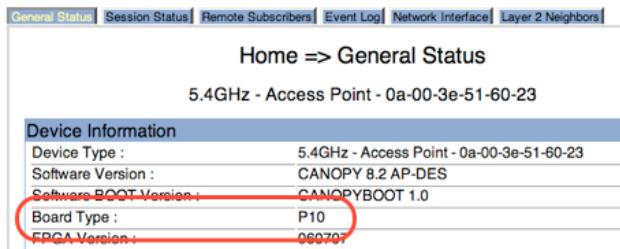

Figure 1: Board Type on modules running Release 8
- For modules that are running Release 8 or Release 9, look on the Home => General Status tab, under **Board Type** as shown in Figure 1.